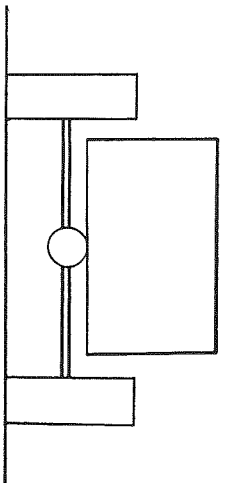

Fig. 6
1. FIG. 6 Wheels upright on entering the corner.